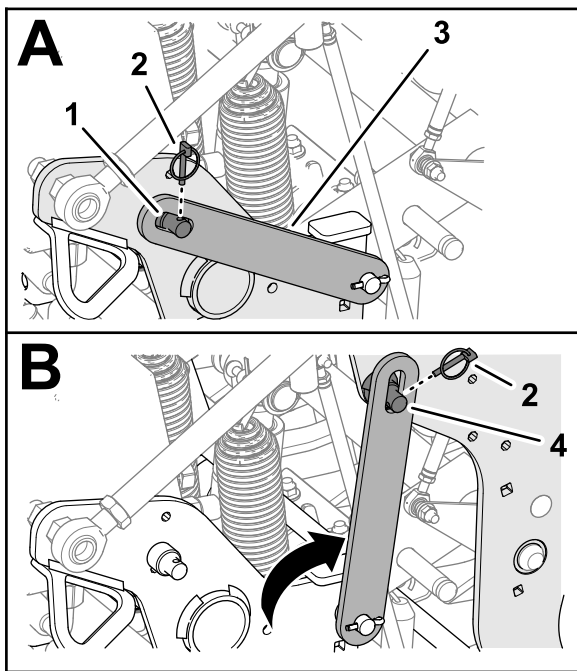

Figure 102
- Remove the lynch pin securing the service latch to the side plate (Figure 102).